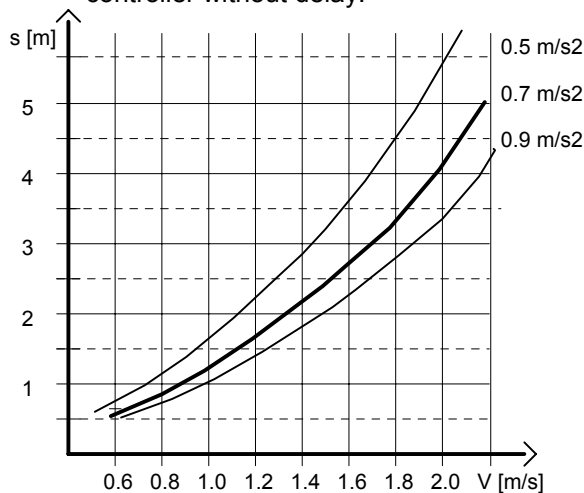

Fig. 5.1 Diagram of the braking distance
- a) The braking distance can be taken from the **diagram** Fig. 5.1. It should be noted that the values only apply if the factory settings for the roundness  $R\_NEG1 = 60\%$  and  $R\_NEG2 = 90\%$  remain unchanged. Furthermore it is assumed that the control system relays the switch-off points to the controller without delay.